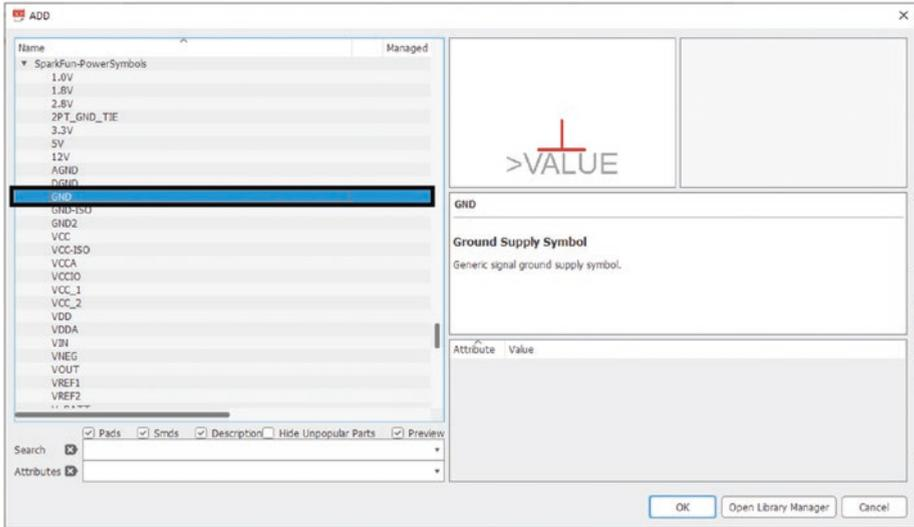

Figure 5-21. Select GND symbol
8. Pressing escape will bring you back to the ADD window where you can double-click GND. See Figure 5-21.